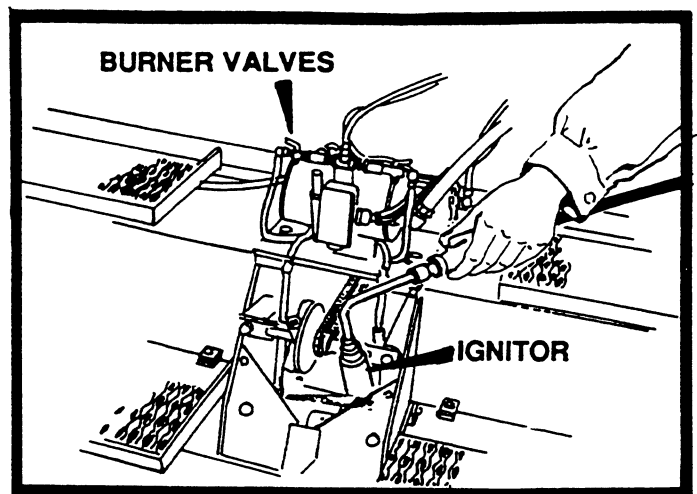

FIGURE 8
1. Turn off all burner valves. See figure 8.
4. Hold ignitor burner at end of main burner. To light main burner, turn burner valve on. See figure 8. (NEVER TURN BURNER VALVE ON UNLESS FLAME IS PRESENT.)